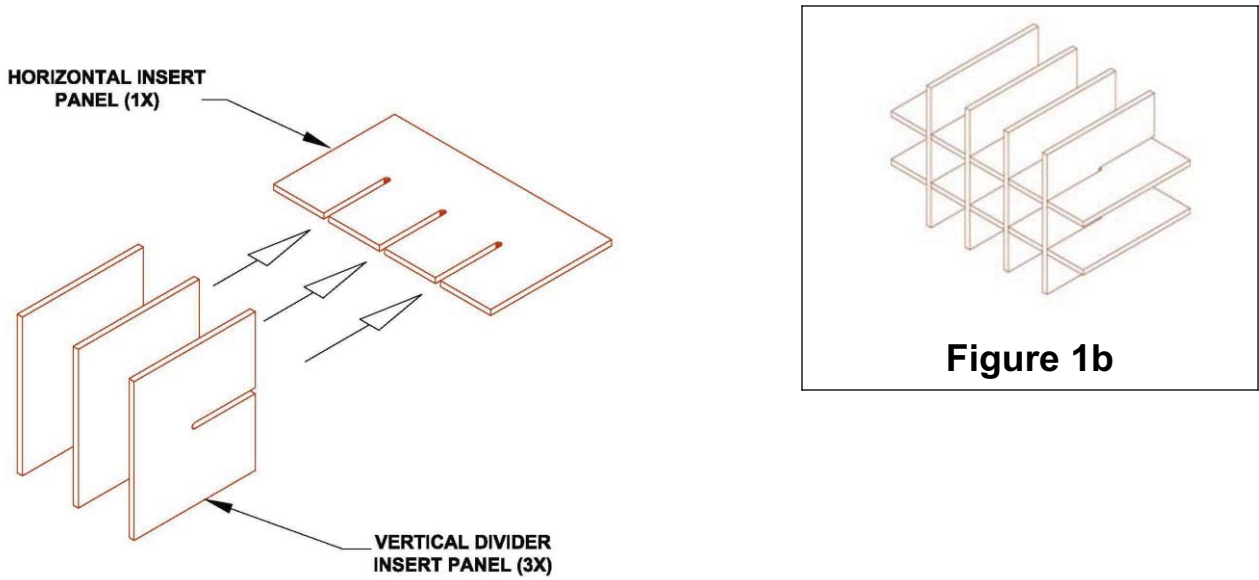

Figure 1
1. Locate the horizontal panel and insert the first vertical panel. The slot on your vertical panel should fit directly over the slot on the horizontal panel. Repeat for the two remaining vertical panels (**Figure 1**).